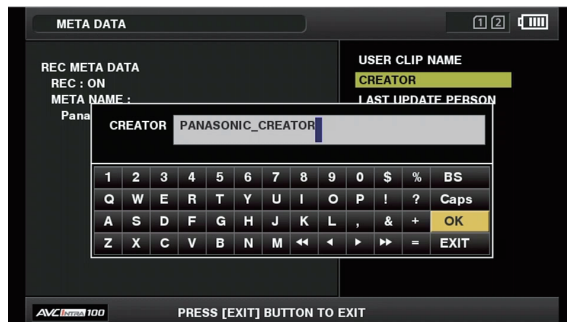

Fig. 2
- A software keyboard screen is displayed, allowing you to modify the setting. (Fig. 2)